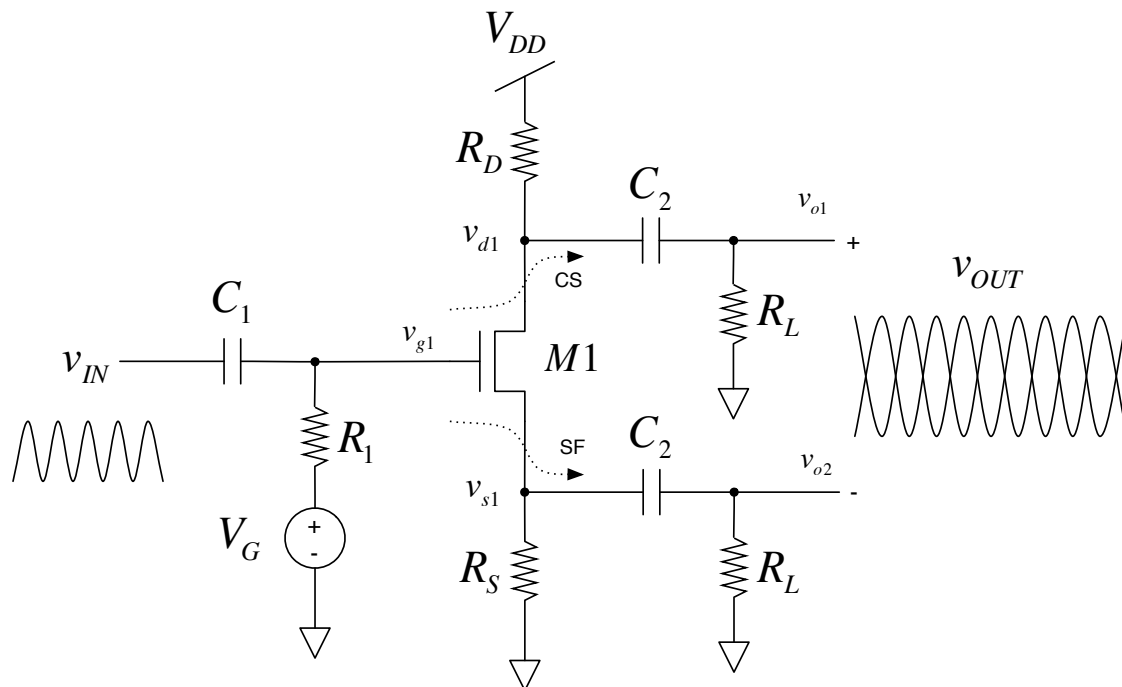

Figure 5.1. A MOSFET active balun circuit.
Most baluns are made using passive devices – transformers, resistors, inductors, etc. An *active balun* uses an amplifying device like a MOSFET or BJT. A standard MOSFET active balun circuit is shown in Figure 5.1. The MOSFET device in this circuit is biased in **saturation**, and **works both as a common-source (CS) amplifier and as a source-follower (SF)**. When considering the signal transferred from v_g to v_{o1} , we have a CS circuit. When considering the signal transferred from v_g to v_{o2} , we have a SF circuit. **To make a good balun, we want the CS and SF circuits to have equal gain, so that the differential output is *balanced*.**
You will design the active balun circuit of Figure 5.1 by choosing appropriate resistor values and bias voltages. Several of the resistances and bypass capacitor values are given in Table 5.1. The MOSFET $M1$ is an N-type device from the CD4007 package. The characteristics of $M1$ are given in Table 5.2.
Procedure 1. First construct the active balun circuit of Figure 5.1¹. Use the bench power supply to provide $V_{DD} = 10V$, and to provide the desired gate bias voltage V_G . Use the digital multimeter to precisely measure the value of all resistances. Record these measurements in a table in your lab book.